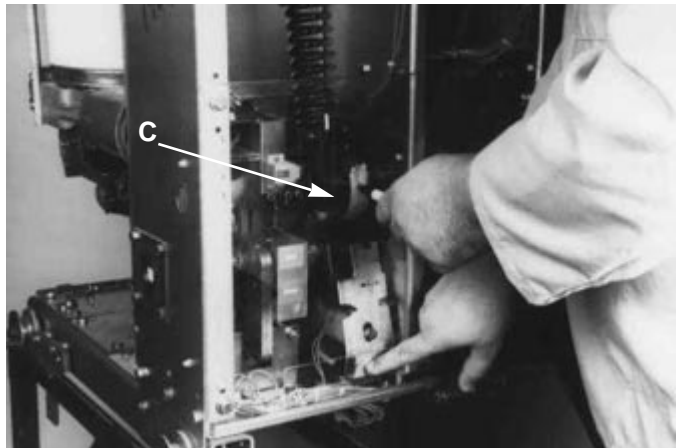

Figure 6-12 Manually Closing Circuit Breaker with Marker in Hole "C".
General Information: The CloSure™ Test can be performed on the VCP-W, VCP-WR, VCPW-ND, DHP-VR, W-VACR, and W-VAC lines of vacuum circuit breakers. Refer to Table 6.4 for list of circuit breakers. If the CloSure™ travel obtained is as specified, the mechanism performance is satisfactory. If the CloSure™ travel does not conform as shown in Figure 6-12, contact Cutler-Hammer for further information. (See Step 13).
Step 8 - While holding the marker tip on the tape, close the breaker (Figure 6-12).